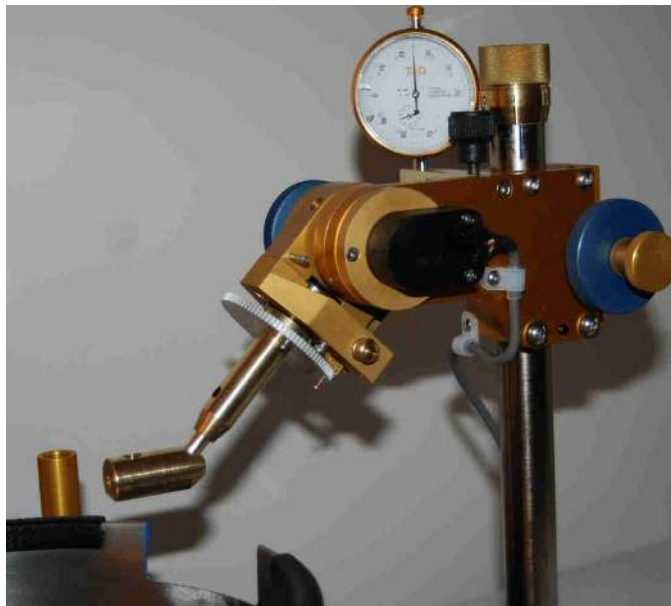

Fig 10
(19) ANGLE DOP (45 Deg Dop) (Fig 10)